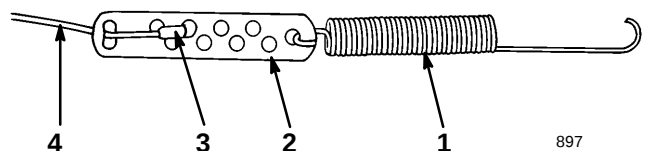

Figure 13
- C. Unhook the Z fitting from the cable adjuster and reposition the Z fitting in the top or bottom hole on the adjuster to obtain a proper gap of 1/16 to 1/8 in. (0.16 to 0.32 cm) between the control bar bracket and the handle (Fig. 13).
- C. Unhook the Z fitting from the cable adjuster and position it in the top or bottom hole on the adjuster to obtain a gap of 1/16 to 1/8 in. (0.16 to 0.32 cm) between the control bar bracket and the handle (Fig. 13).